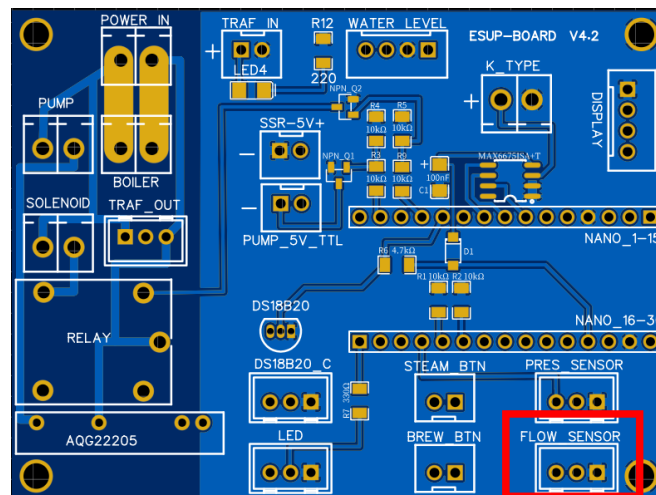

Fig. 6.4
- Take the sensor cable, pass it through the hole to the main board and plug it to FLOW_SENSOR port (fig.6.4).